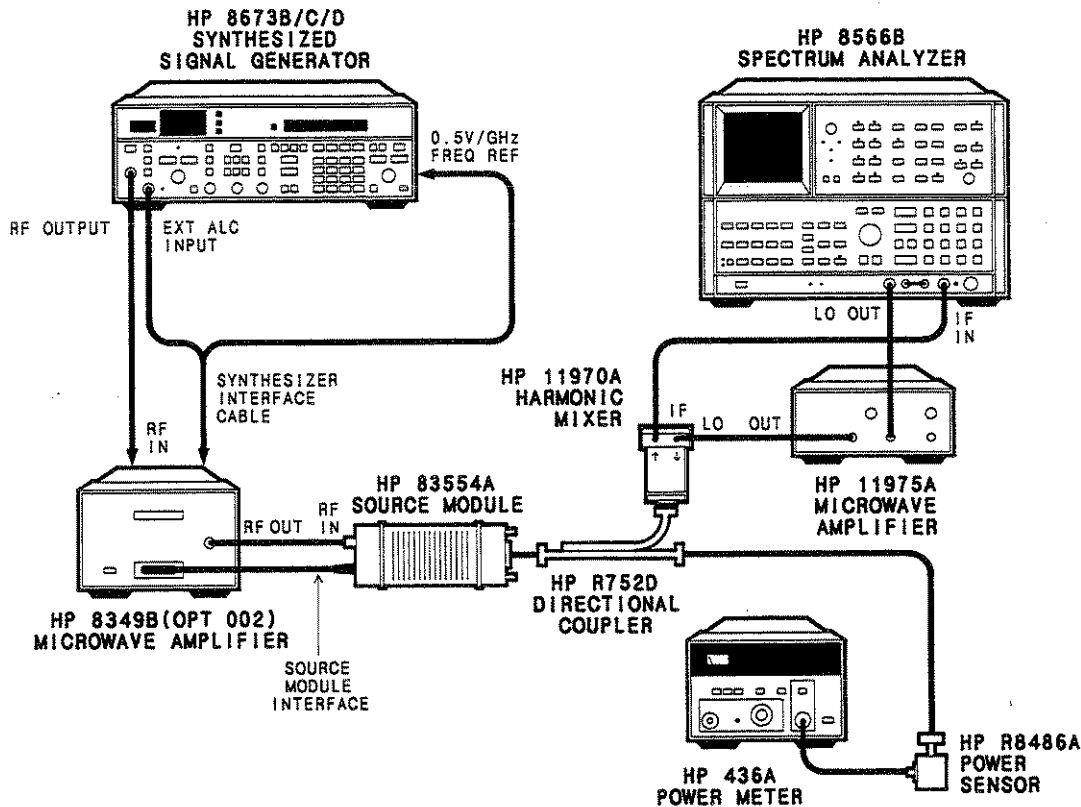

Figure 2-9. Spurious Signals Test Setup
The RF output signal from the millimeter-wave system is tuned from 26.5 to 40.0 GHz using the HP 8673B/D or from 26.5 to 37.2 GHz using the HP 8673C. The system output frequency is displayed on a spectrum analyzer to verify that any harmonic spurious signals are at or below their specified levels. The test configuration in Figure 2-9 uses an external harmonic mixer to extend the frequency range of the spectrum analyzer. When this technique is used, the response is not preselected and multiple signals are displayed that are not necessarily in the frequency band displayed on the spectrum analyzer. Each response must be examined not only for amplitude level but also to determine whether it is a true in-band spurious signal by using the spectrum analyzer's signal identification function
1. Connect the equipment as shown in Figure 2-9.
Because the test configuration in Figure 2-9 specifies that the external mixer be connected to the coupled arm of a 20 dB directional coupler, the coupled power must also be taken into account when calculating reference level offset. The new equation is as follows: